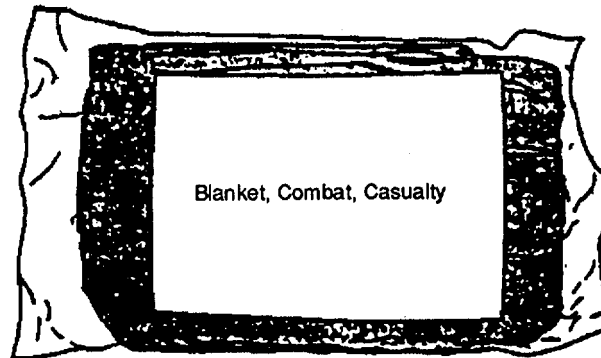

Figure 2-23. Combat Casualty Blanket
- a. Blanket, Combat Casualty. The combat casualty blanket (See Figure 2-23) is used to provide both warmth and protection from the elements and as a signaling panel to aid in rescue.